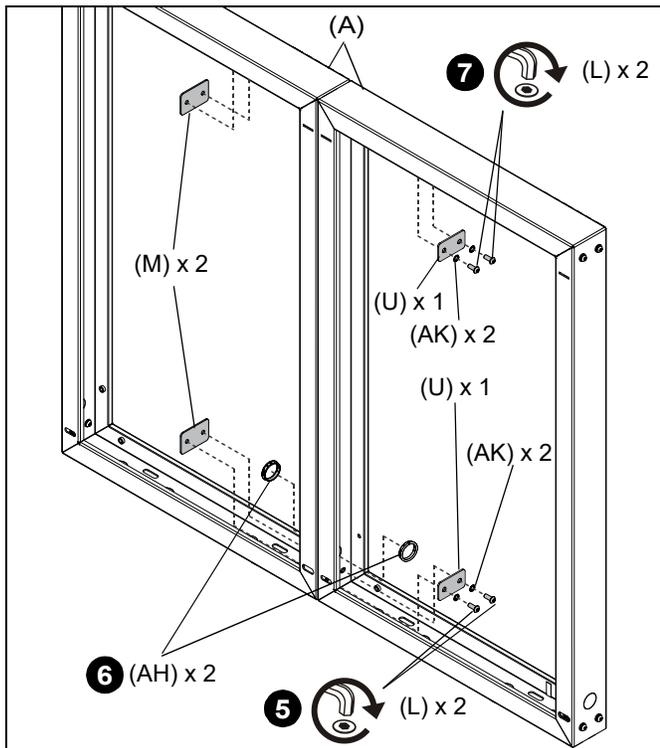

Figure 9
5. Install two M8 x 20mm screws (L), one washer plate (U), two 8mm lock washers (AK), and one large washer plate (M) into the holes in the bottom of the side of the frame (A) to secure the frames together. (See Figure 9)
6. Install a grommet (AH) into the open knock-out location in each frame. (See Figure 9)
7. Remove the two M8 x 20mm screws (L) and 8mm lock washers (AK) installed in Step 1, then reinstall with one washer plate (U). Tighten hardware. (See Figure 9)